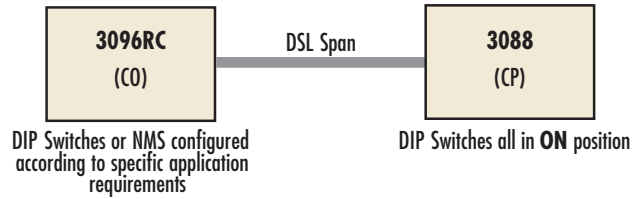

Figure 6. Typical RocketLink Plug 'n' Play Application
- Set the Model 3096RC (CO) to either Internal or External clocking mode as defined by the application.
- Set the Model 3088 (CP) to “RocketLink Plug-and-Play CP” by setting S1 and S2 DIP switches in the *ON* position as described in figure 6.